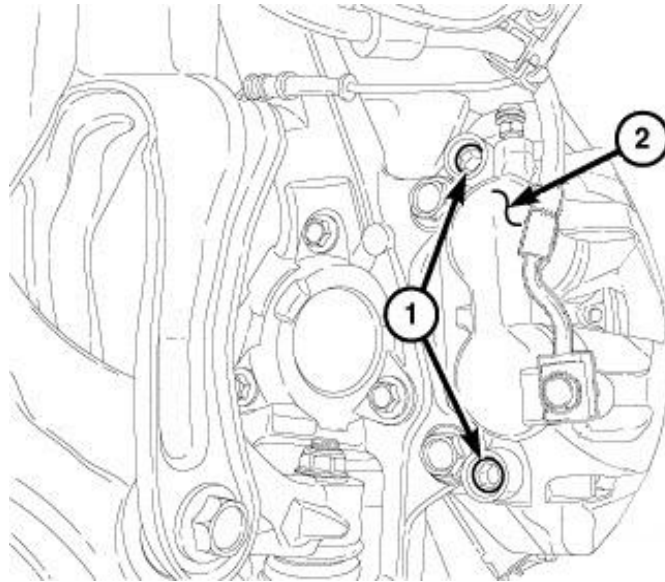

Fig. 4 Brake Caliper Installation
11. Position the brake caliper (2) and tighten the NEW brake caliper guide pins (1) to 55 N·m (41 ft. lbs.) (Fig. 4).
12. Install the NEW dust shields covering the brake caliper guide pins (1) (Fig. 4).